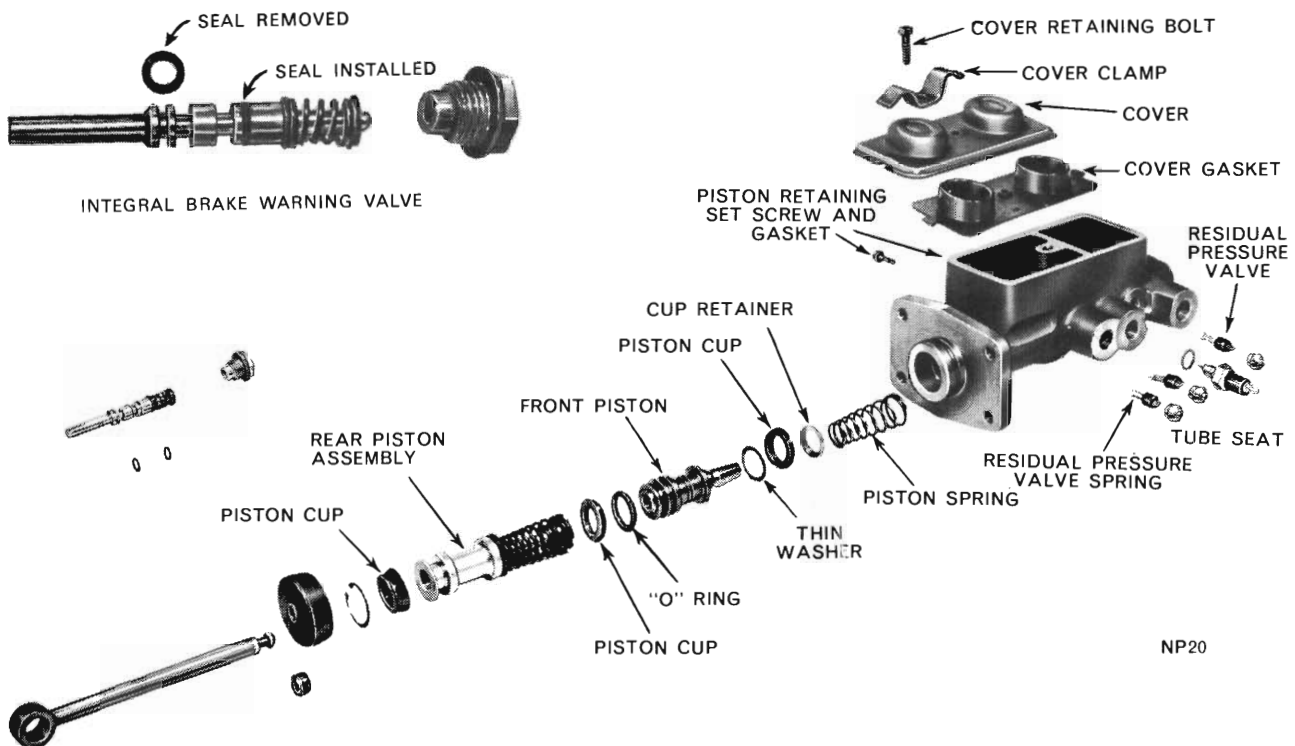
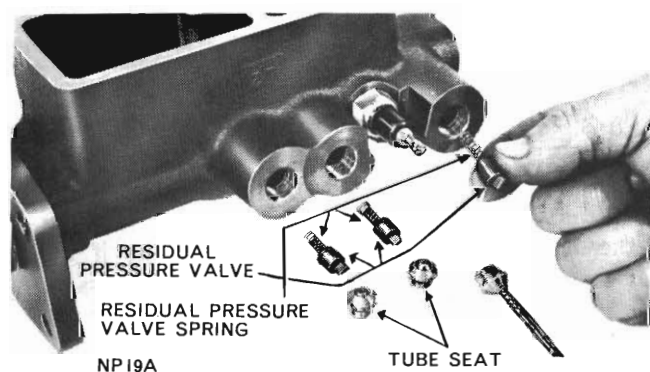

Fig. 1 - Tandem master cylinder (disassembled view) — typical assembly.
Fig. 3 - Removing or installing residual pressure valves
The tandem master cylinder, *Fig. 1*, is of the compensating type with the reservoirs cast integrally. The master cylinder consists of a front and rear piston (in tandem), two outlets, each containing a residual pressure valve and spring (drum brake models) or rear brake line (larger) outlet only, (disc brake models).
(1) Clean the outside of the master cylinder thoroughly.
(2) Remove cover bolt, clamp and remove cover and gasket. Empty brake fluid from reservoirs — refer Fig. 1.
(3) Slide the dust boot from the end of the master cylinder and remove the piston stop snap ring. Withdraw the rear piston assembly and push rod. Do not remove the push rod from the piston at this stage (where equipped).
(4) Remove piston retaining screw and gasket (refer Fig. 1) then slide front piston assembly out of cylinder bore.
(7) Remove residual pressure valves and springs (from "forward" outlet only, (Fig. 3) disc brake models).
(1) Carefully work piston cup on front end of front piston with the lip away from piston (Fig. 1) (toward front of cylinder).
(2) Slide "O" ring over the rear end of front piston and into correct land.
(3) Carefully work front piston rear cup (Fig. 1) into rear land, with the cup lip away from piston (toward rear of cylinder).
(4) Slide cup retainer over front end of piston, followed by piston spring (Fig. 1).
(1) Carefully work piston cup over rear end of rear piston with lip of cup toward front (Fig. 1).
(3) Holding pistons in seated position install piston retaining circlip.
(4) Install front piston retaining screw and gasket. Tighten securely (Fig. 1).
(5) Install dust boot in position.
(6) Install residual pressure valves and springs (Fig. 3) (in "forward" outlet only on disc brake models), then install tube seats firmly. (When the bleeding tubes are attached, the tube seats will be positioned correctly).